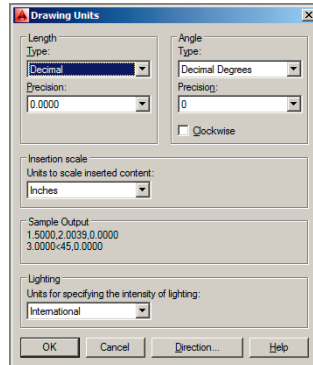

FIGURE 1.18 Setting drawing units
2. Type **UN**, and press Enter to bring up the Drawing Units dialog box (see Figure 1.18). UN is the command alias (abbreviation) of the UNITS command. Most commands have aliases that minimize typing.